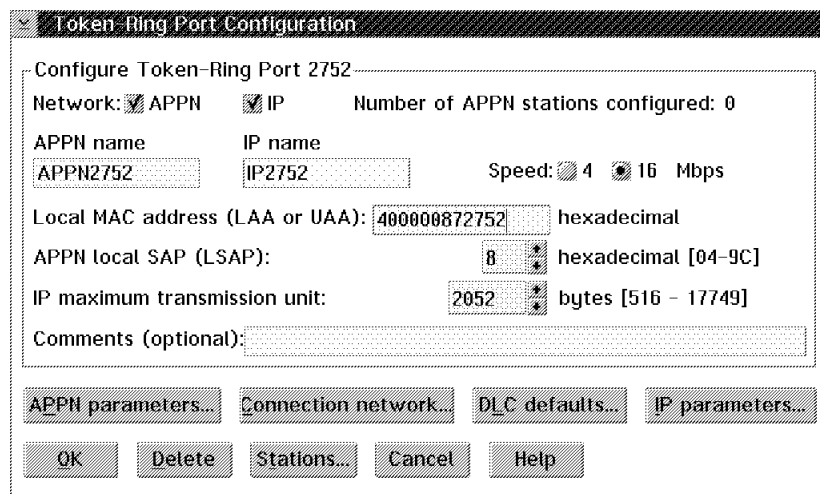

Figure 26-31. Token-Ring Port Configuration for Multiaccess Enclosure Port 0 Connection
- Select **Speed 16 Mbps**, and enter the local MAC address 400000872752, as shown in Figure 26-31.